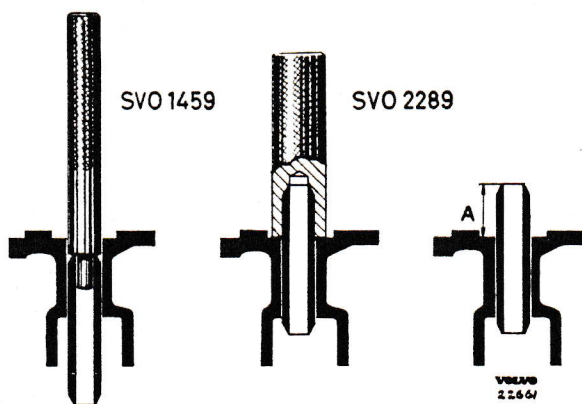

Fig. 37. Replacing the valve guides
2. Press in the new guides, use tool SVO 2289, which gives the correct depth. See Fig. 37.